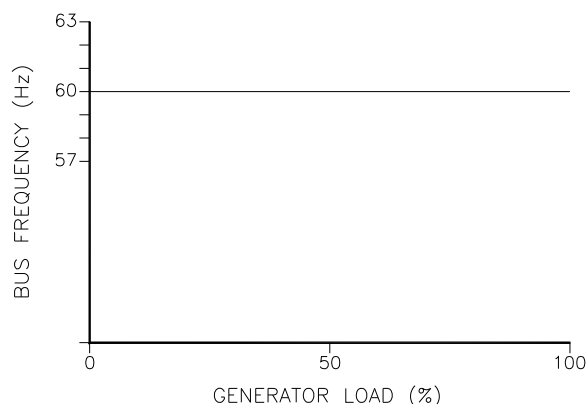

Figure 4-8. Isochronous Mode
- A generator set operating in the isochronous mode will operate at the same set frequency regardless of the load it is supplying, up to the full load capability of the generator set (see Figure 4-8). This mode can be used on one generator set running by itself in an isolated system.